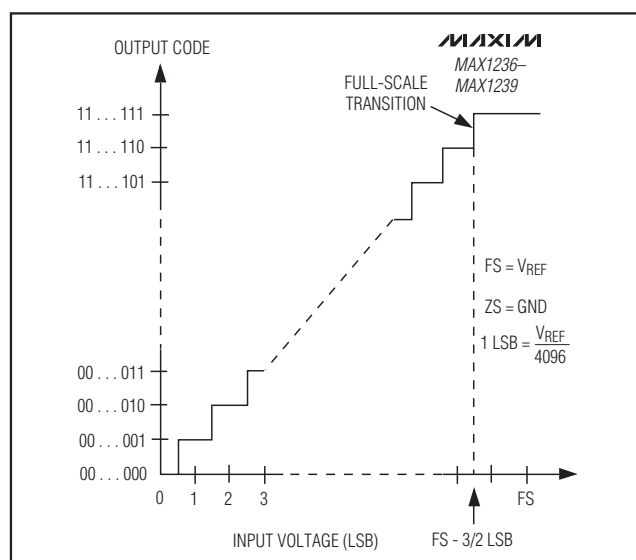

Figure 12. Unipolar Transfer Function
Output data coding for the MAX1236–MAX1239 is binary in unipolar mode and two's complement in bipolar mode with 1 LSB = (VREF/2N) where "N" is the number of bits (12). Code transitions occur halfway between successive integer LSB values. Figures 12 and 13 show the input/output (I/O) transfer functions for unipolar and bipolar operations, respectively.